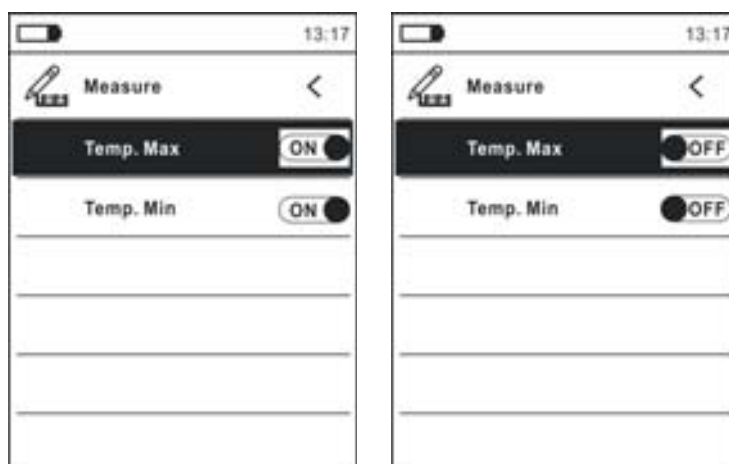

Fig. 13: Measurement Menu
9. Select item "Measure" and press key or **▶** to enable activation/deactivation of the cursors associated with the "hottest" or "coldest" spots in the thermographic image (see Fig. 13).